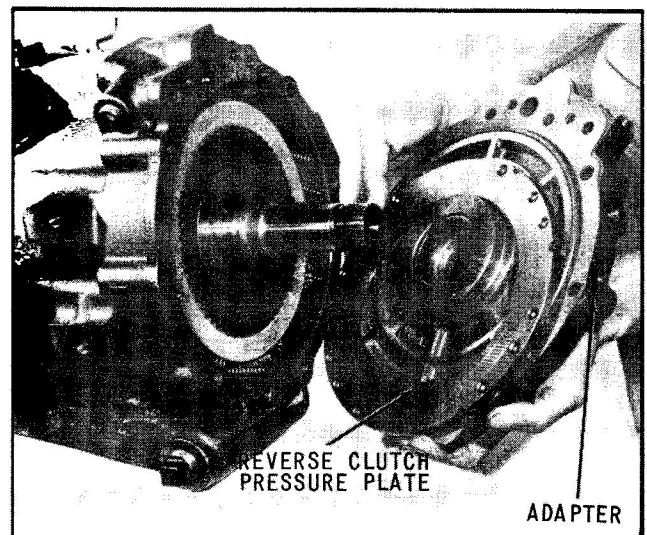

Fig. 14 Remove Adapter
5. Remove the four adapter to case bolts and pull adapter from transmission. A large plastic hammer may be needed to help free adapter from snap fit of transmission case. Catch and remove reverse clutch pressure plate as the adapter is removed, (Fig. 14).